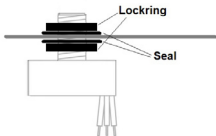

Fig. 1
- Using the seals and lockrings supplied, place the sensor into the hole and fasten securely against the enclosure wall. The inner locking may be omitted and the outer locking tightened against the body of the sensor, but both seals should be used (see Fig. 1)